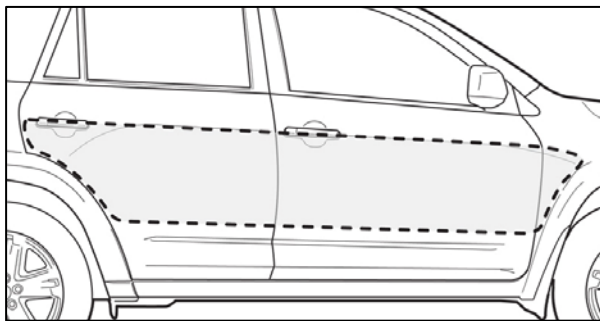
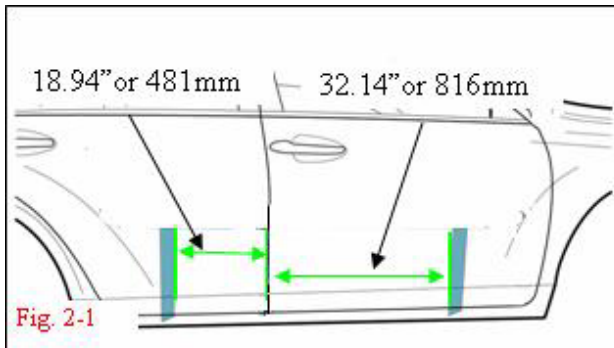

Fig 1-1
Fig. 2-1
- (c) Saturate a clean lint-free cloth with 3M™ Prep Solvent-70 and clean the areas of each door as shown in Fig. 1-1.
-  (1) When cleaning with 3M™ Prep Solvent-70 follow the manufacturer's directions. Do not allow cleaner to air dry.
- (a) Place a vertical piece of tape at the front of the Front Door and the rear of the Rear Door on both sides of the vehicle as shown in Fig. 2-1.